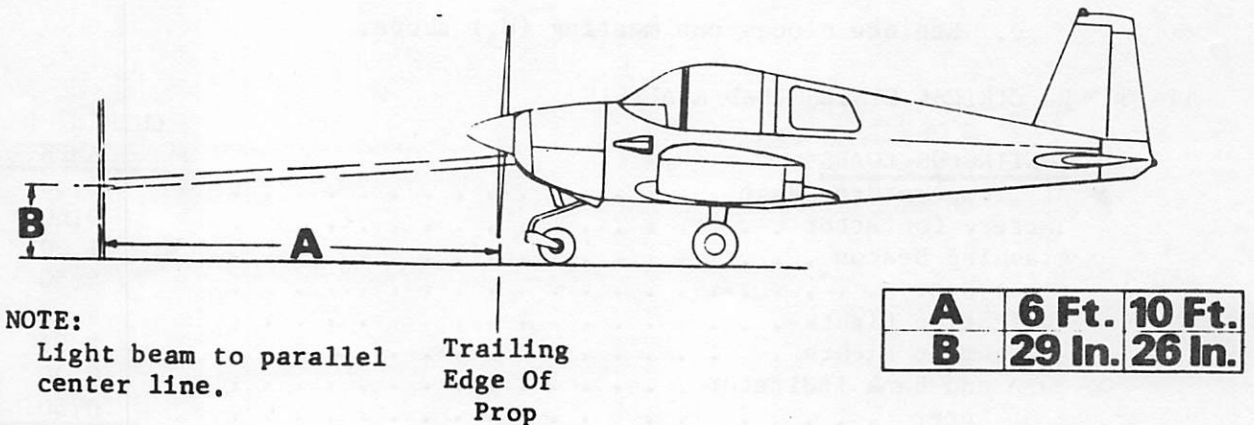

Figure 11-2. Landing Light Adjustment
The landing light serves the dual purpose of landing light and taxi light. Adjustment to the landing light can be made by removing the upper cowl and adjusting the mounting screws as required. (See Figure 11-2).
*Proper adjustment of the light can be determined as shown in Figure 11-2.*